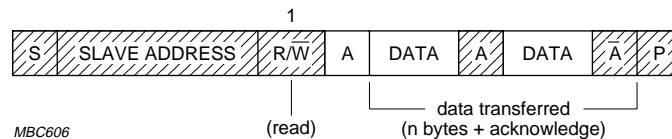

Fig.12 A master reads a slave immediately after the first byte.
- Master reads slave immediately after first byte (see Fig.12). At the moment of the first acknowledge, the master-transmitter becomes a master-receiver and the slave-receiver becomes a slave-transmitter. This first acknowledge is still generated by the slave. The STOP condition is generated by the master, which has previously sent a not-acknowledge (\bar{A}).